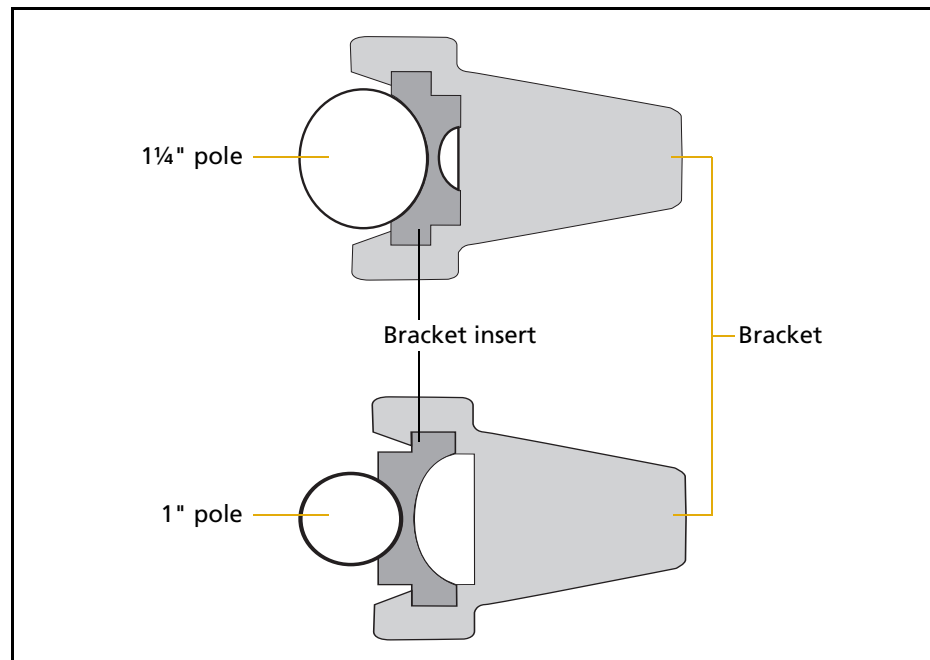

Figure 3.8 Receiver bracket insert
**Note** – If you are using a 1" diameter pole, flip the bracket insert around inside the bracket, as shown in Figure 3.8.